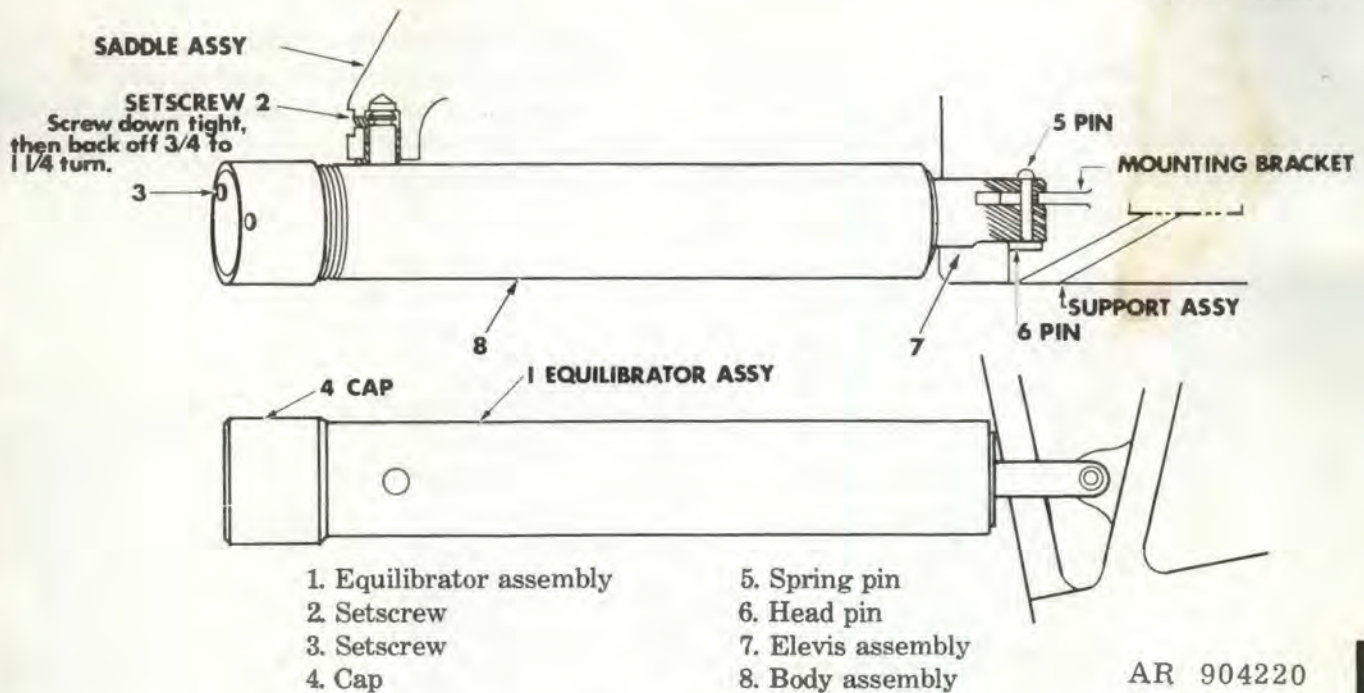

Figure 6-63.1. Equilibrator assembly (new).
The M157 mount contains two equilibrator assemblies (1, fig 6-63.1).
(4) To facilitate removal (fig 6-63.1) loosen the two setscrews (3) and unscrew cap (4) sufficiently to relieve excessive spring load.
(5) Using a socket-head screw key, loosen setscrew (2) that secures equilibrator body assembly to saddle assembly.